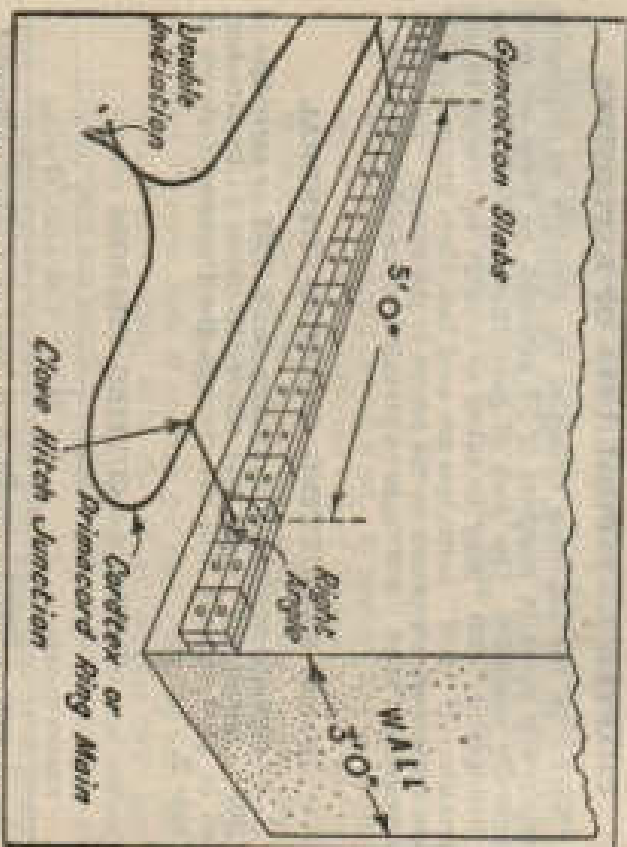

Fig. 13. Cutting charge on thick masonry wall, showing points of initiation. (Firing omitted for clarity)
- (b) Long continuous cutting charges should have points of initiation (primers fired by cordtex, etc., as already described) every 5 ft of their length (see Fig 13). Grenades, however, should be placed flat end to flat end, with every other grenade initiated by cordtex. Where possible initiation should be on the surface of the charge furthest from the face of the object attached and at right angles to it (see Fig 13).
For walls over 9 ins and up to 18 ins thick use a continuous line of grenades placed flat end to flat end. Every other grenade should be initiated with cordtex as already described. It is emphasized again that such charges are NOT sufficient for reinforced concrete walls. Fig 13 shows a thick masonry wall with a cutting charge of four slabs of C.C. per foot run.